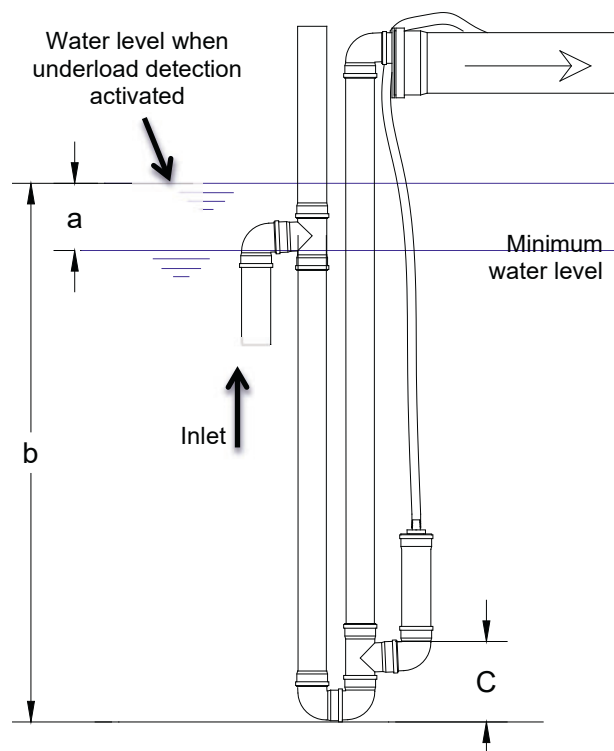

Figure 14: Charging lifter, levels in preliminary cleaning
The one2cleanXtra plant or the first chamber in the oneAdvanced (sludge reservoir/buffer) must be filled with water up to the height at which a cleaning cycle is to be triggered. This level depends on the geometry of the tank and the number of connected inhabitants (PE). The recommended buffer heights b (see Figure 14, page 76) above the minimum water level are specified for the various configurations in the table below.